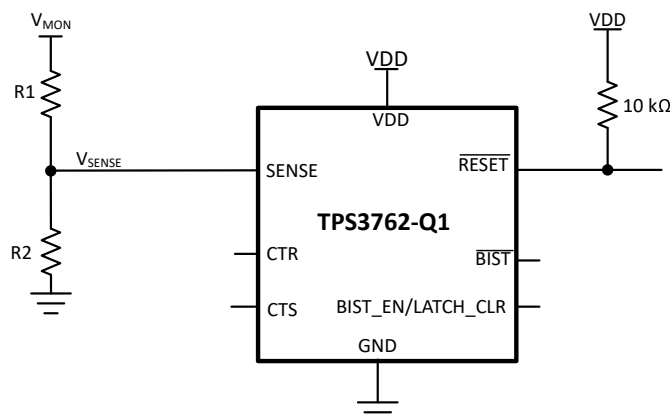

图 11-1. Adjustable Voltage Threshold with External Resistor Dividers
图 11-1 illustrates an example of how to adjust the voltage threshold with external resistor dividers. The resistors can be calculated depending on the desired voltage threshold and device part number. TI recommends using the adjustable (0.8V voltage threshold device) when setting adjustable voltage thresholds. This variant bypasses the internal resistor ladder.
For example, consider a 12V rail, V_{MON} , being monitored for overvoltage (OV) using of the TPS3762D02OVDDFRQ1 variant, as shown in 图 11-1. The monitored OV threshold, denoted as V_{MON+} , is the desired voltage where the device asserts the reset. For this example $V_{MON+} = 35V$. To assert an overvoltage reset the voltage at the sense pin, V_{SENSE} , needs to be equal to the input threshold positive, V_{ITP} . For this example variant $V_{SENSE} = V_{ITP} = 0.8V$. Using R_1 and R_2 the correlation between V_{MON+} and V_{SENSE} can be seen in 方程式 8. Assuming $R_2 = 10k\Omega$, and R_1 can be calculated as $R_1 = 427.5k\Omega$.